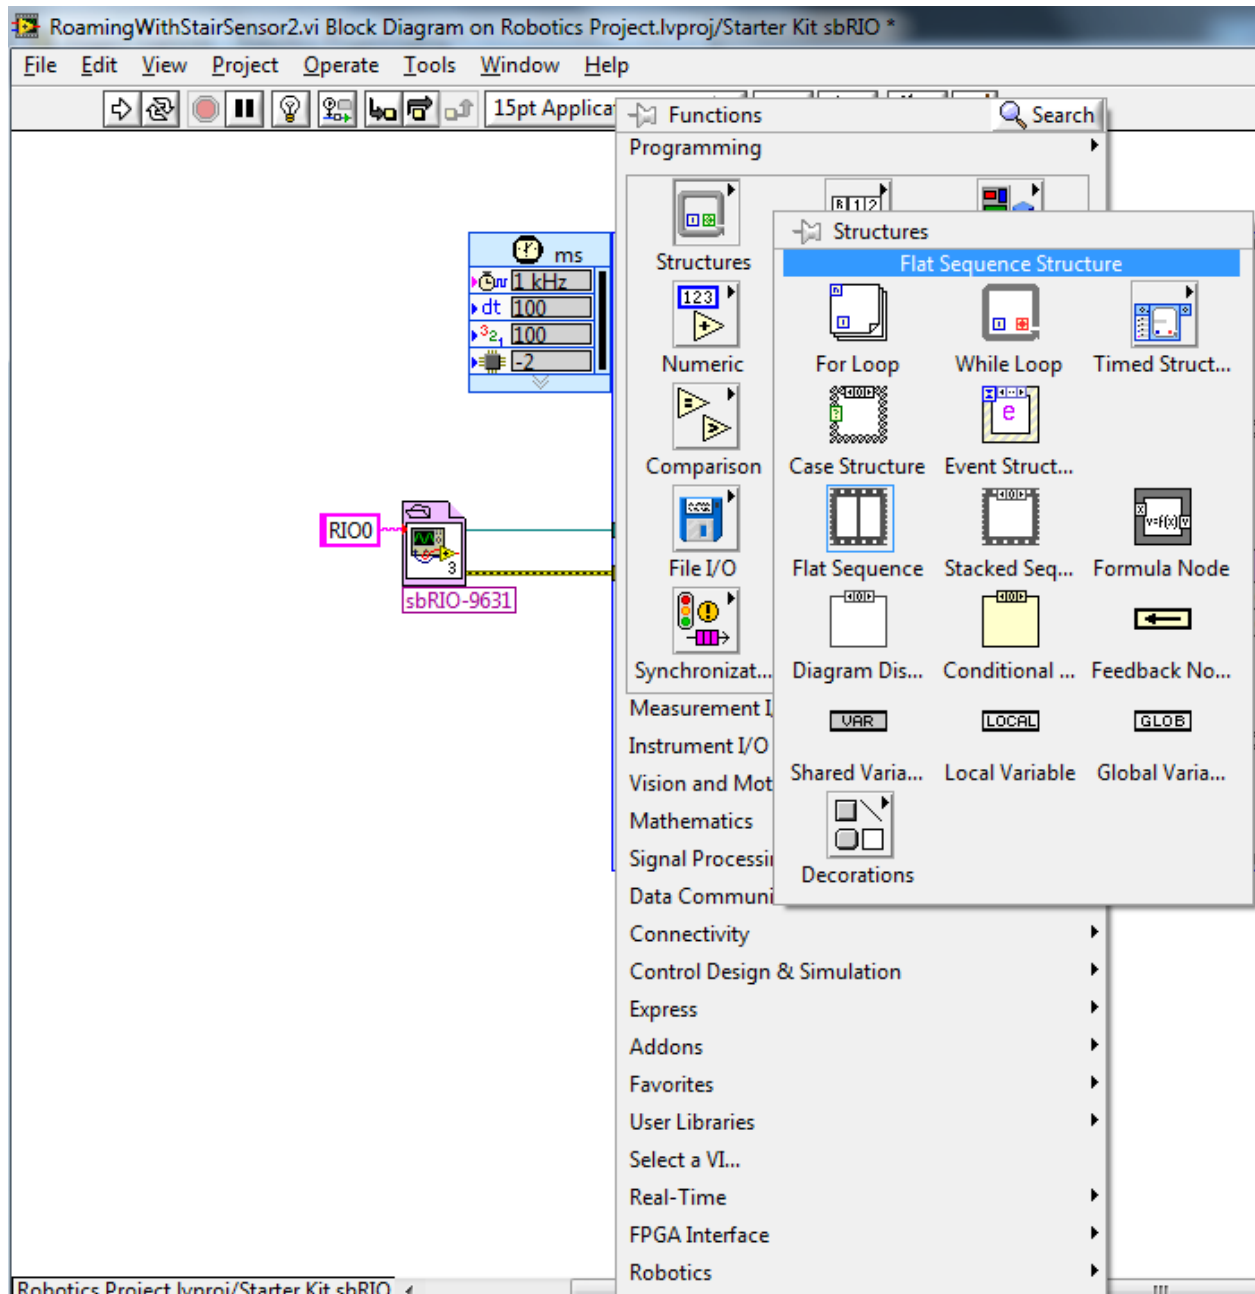

Fig. 3-6
Step 17: In the first block of the flat sequence, we will place the subVI we created earlier. To do this, right click inside the block of the flat sequence, select “Select a VI...” and then browse your files until you find your roamingSubVI.vi. Fig. 3-6 shows how to select a subVI also. Connect the FPGA reference and error wires from the “Open FPGA reference” vi to the subVI. Hopefully no error will occur but if one does occur refer back to the warning mentioned earlier when creating the subVI.